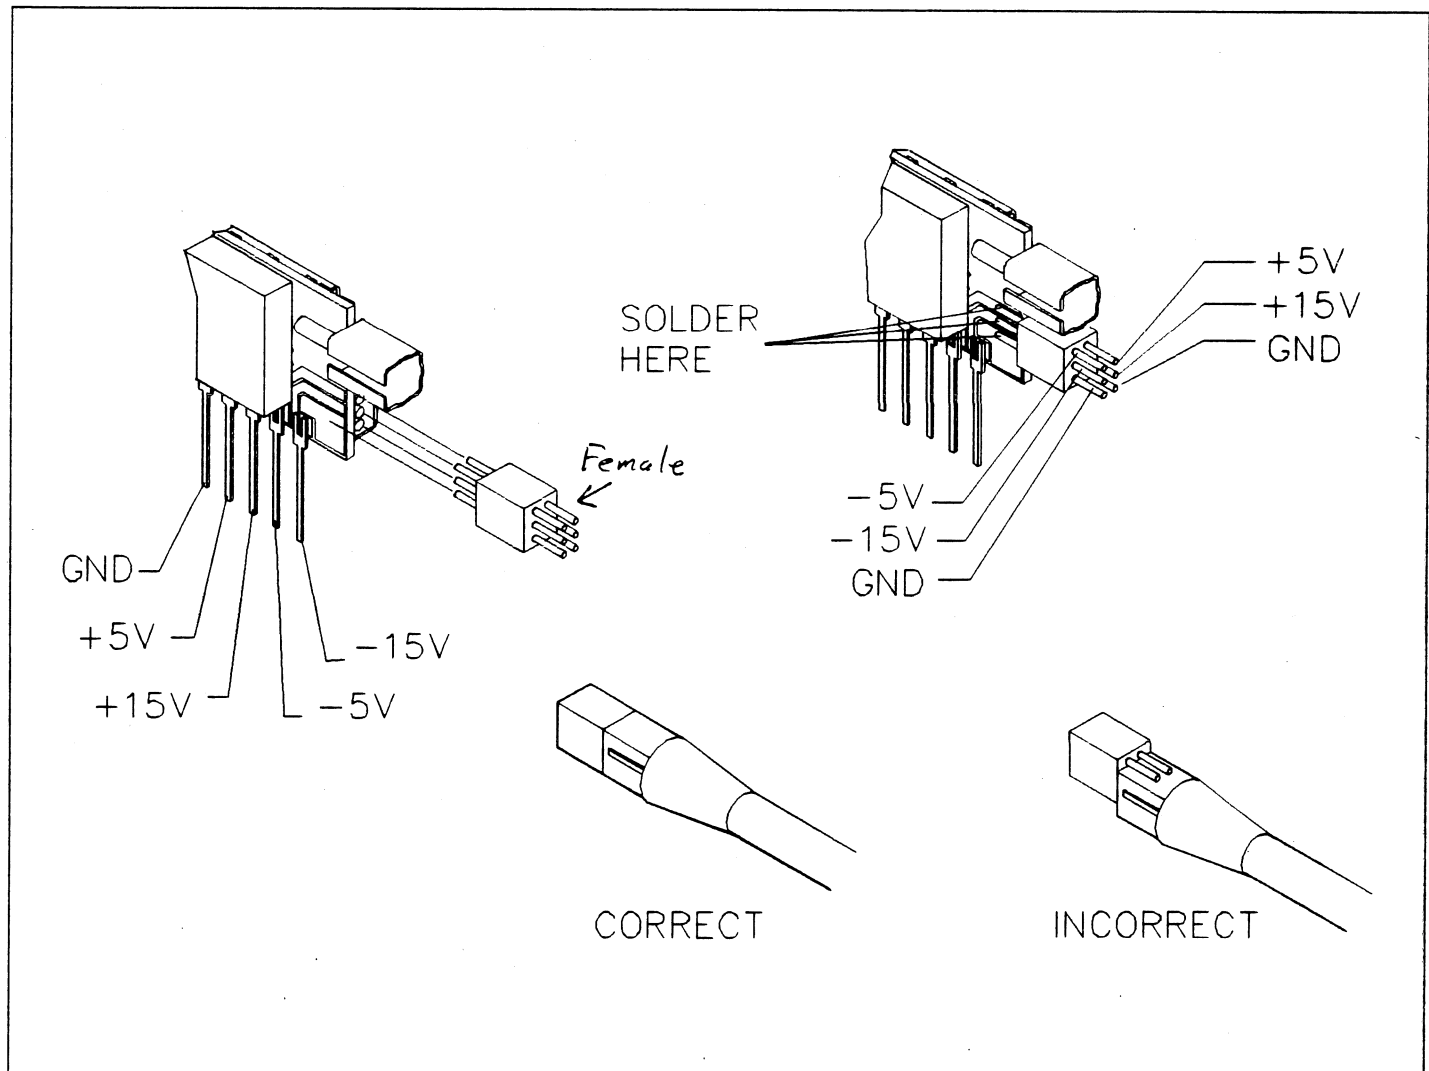

Figure 1. Pinouts, power connector and alignment.
1) The five standard pre-mounted leads can be plugged directly into the circuit board. This is the recommended configuration (Refer to Figure 1 for pin outs of the A6501). For optimum amplifier performance, power supply specifications should meet or exceed those listed in the "Specifications" section.
2) A 2 X 3 female power connector, (Optional Accessory) can be soldered to the amplifier. Figure 1 illustrates how the power connector is soldered to the buffer amplifier. This connector will allow the buffer amplifier to obtain power through:
When using the power connectors on the A6501, be certain that the buffer amplifier's power connector and the power supply connector are properly aligned (refer to Figure 1). Do not power up the amplifier until the connectors are properly installed. Both supplies should be powered simultaneously.